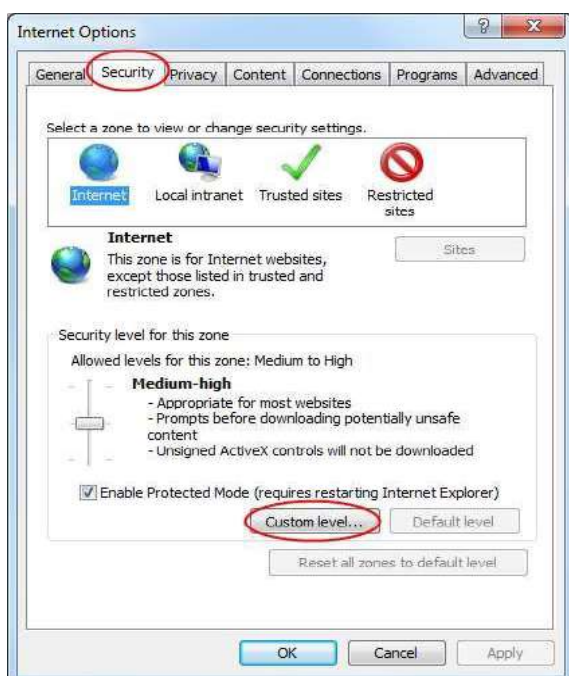

Fig 10-1
- b. Select **Security**→**Custom Level**. Refer to Fig 10-1.